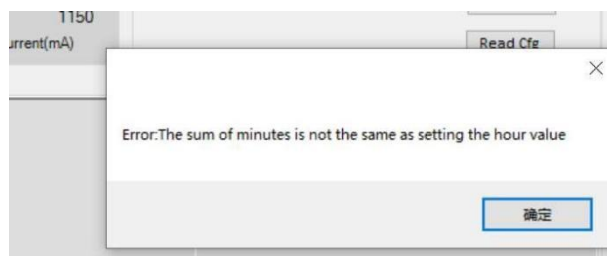

Figure 16
- ② When using multiple modes, the time sequence of the first column must follow the principle of "from small to large" (e.g. 1-2-3...8), not from "large to small" (e.g. 3-2-1), and the time length of All hour must be equal to the sum of the seven timers (All hour=T1+T2+T3+T4+T5+T6+T7), and the format must be correct. When the customer does not follow the above three points, the software will prompt the following error (see Figure 16).